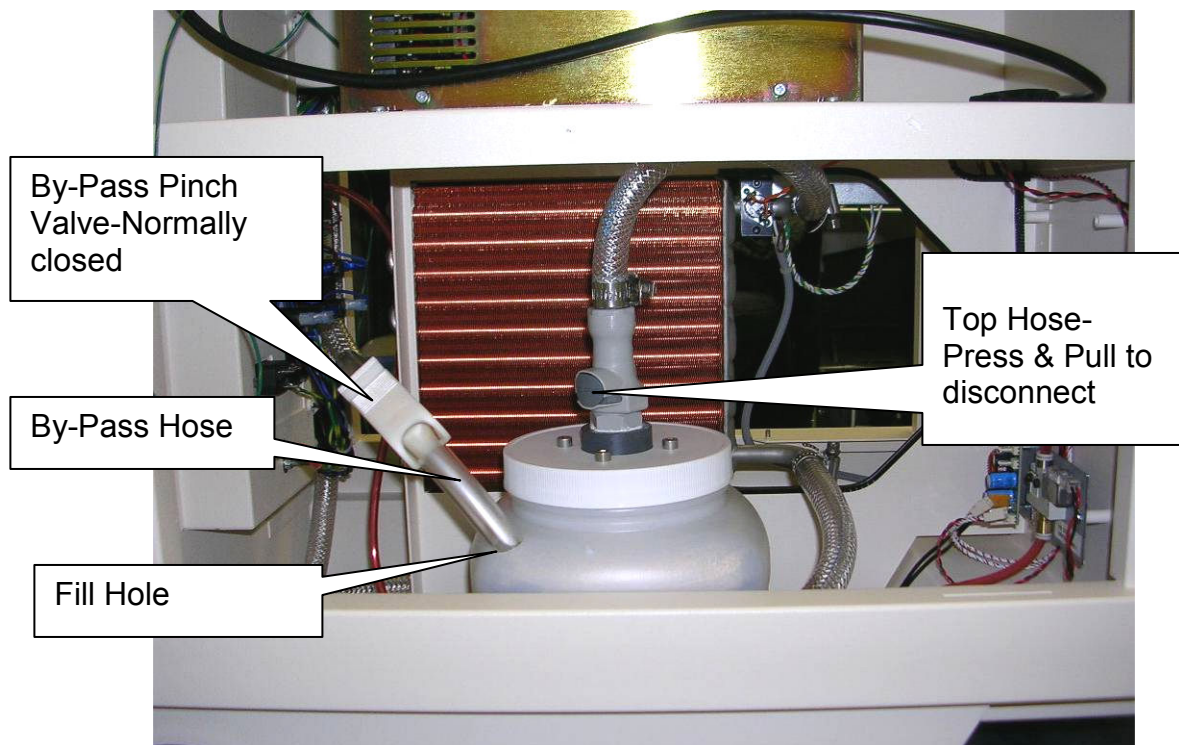

Figure 1a
- A. **DI Water Filling or Refilling (Figure 1a-d)**-(Note: The system is delivered without DI Water & **MUST** be filled before turning the system "On". (Note: DI Water is supplied with the welder)
## **B. Initial Filling of the DI Water Bottle & Bleeding the Pump (Figure 1a-d)**
**C. Refilling/Topping Off the DI Water Bottle (Refer to Figure 1a-d)**
3. **The system should be “Off” for at least five (5) minutes before servicing.**